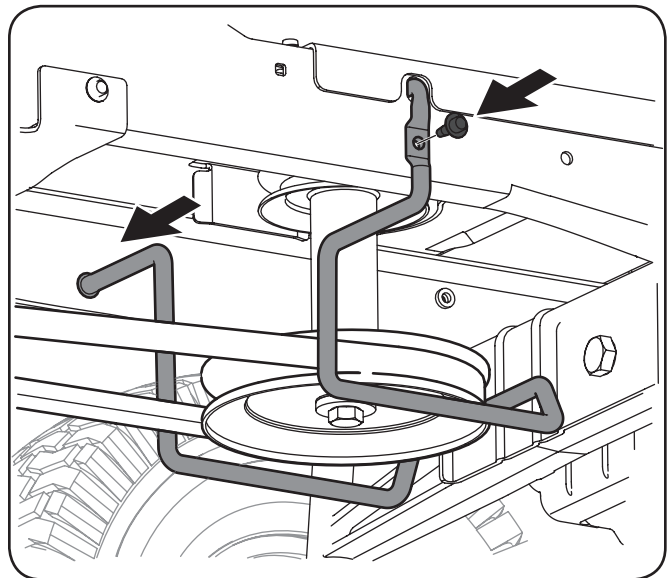

Figure 3-11
11. On models with a **Manual PTO**, install the new belt keeper rod and secure it with the hex screw retained when the old keeper rod was removed. See Figure 3-11.